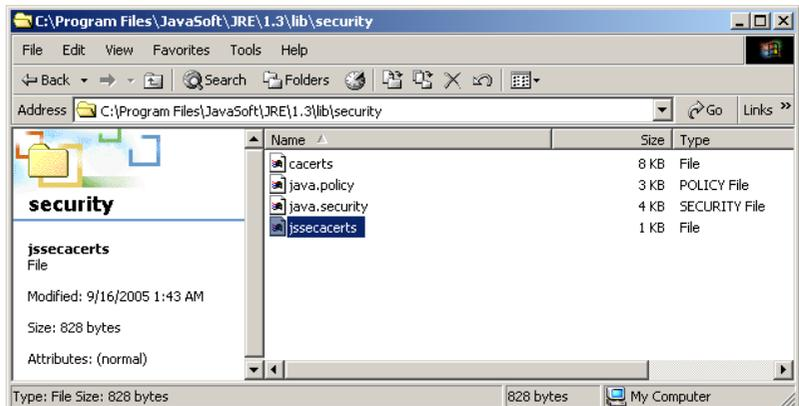

Figure 27. Rename Screen
- When the download is finished, rename the certificate file `pw-jssecacerts.crt` to `pw-jssecacerts` (see Figure 27).